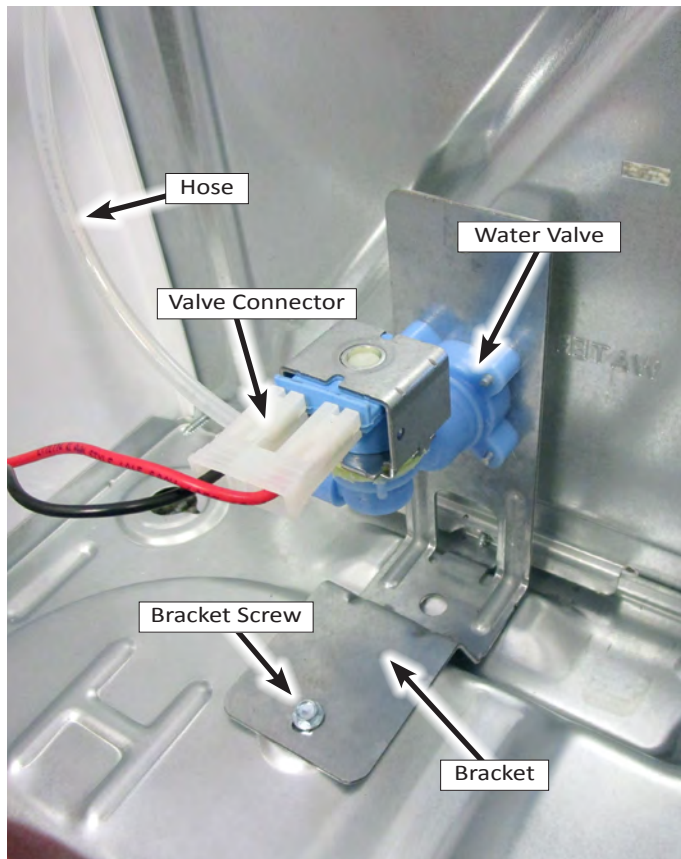

Figure 1 - Water Valve viewed from right side.
3. Disconnect the water valve harness connector (see Figures 1 & 2).
4. Remove the "C-Clip" from the water valve tube fitting and remove water tube from valve assembly (see Figures 1 & 2).
5. Remove the 1/4" hex-head screw securing the water valve bracket to the dryer base. Remove water valve and bracket assembly from dryer. See Figures 1 & 2.